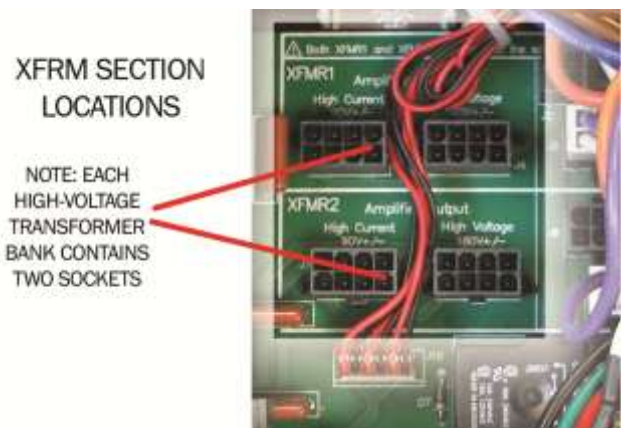

Figure 4.11– Location of Amplifier Voltage Output Sockets
1. Locate the two XFMR sections (left of Line Voltage sections) (see **Figure 4.11**).